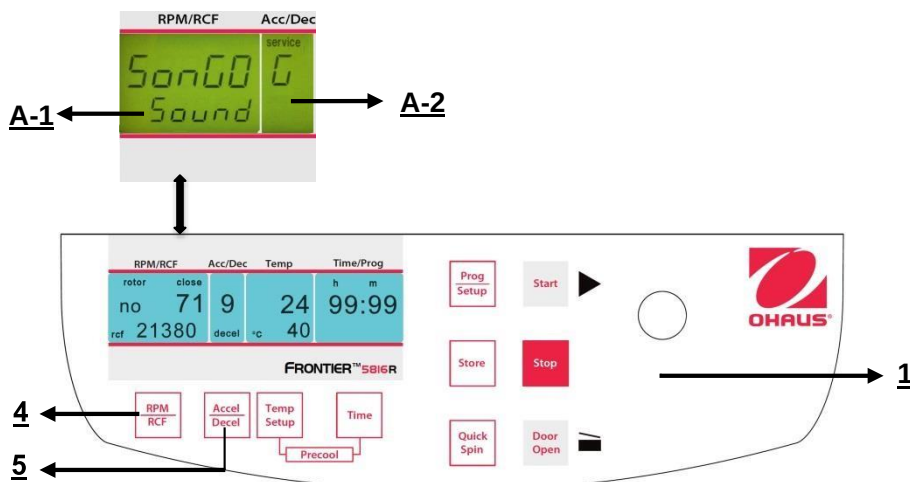

Figure. 34
Proceed as described under point 4.1.1 to enter this program mode and then press the key "**Accel/Decel**" (5). In the display "**Acc/Dec**" (A-2) the word "**Service**" flashes. Now select the letter "**G**". with the adjusting knob (1). As a result, in the display "**RPM | RCF**" (A-1), the word "**SonGo/Sound**" appears. After pressing the key "**RPM | RCF**" (4), you can select a song with the adjusting knob (1). (See figure 34).